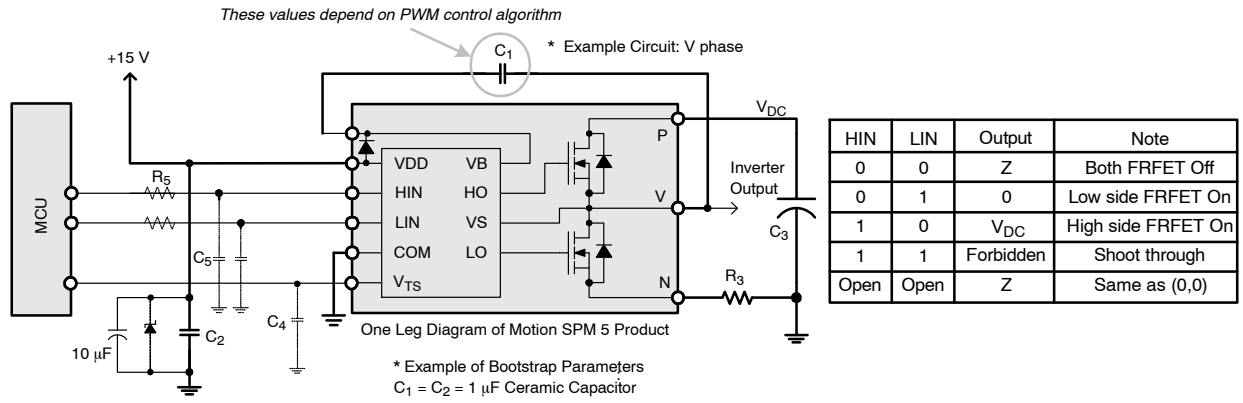

**Figure 2. Built in Bootstrap Diode Characteristics (Typical)**
8. Built in bootstrap diode includes around  $15\ \Omega$  resistance characteristic. Please refer to Figure 2.